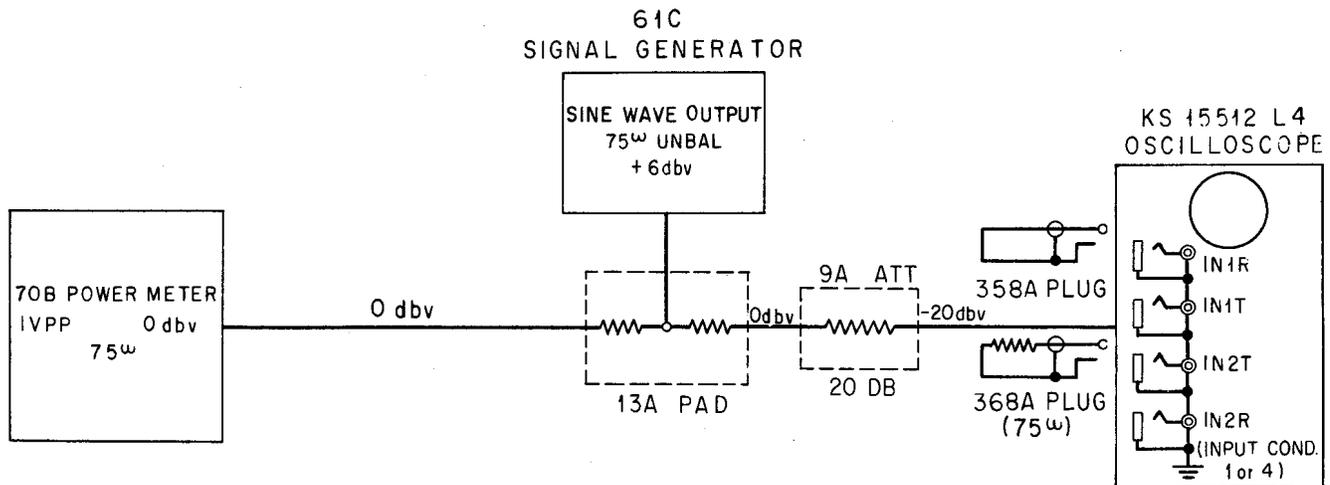

Fig. 7 – Vertical Amplifier Sensitivity
9.11 Use the equipment arrangement illustrated in Fig. 7.